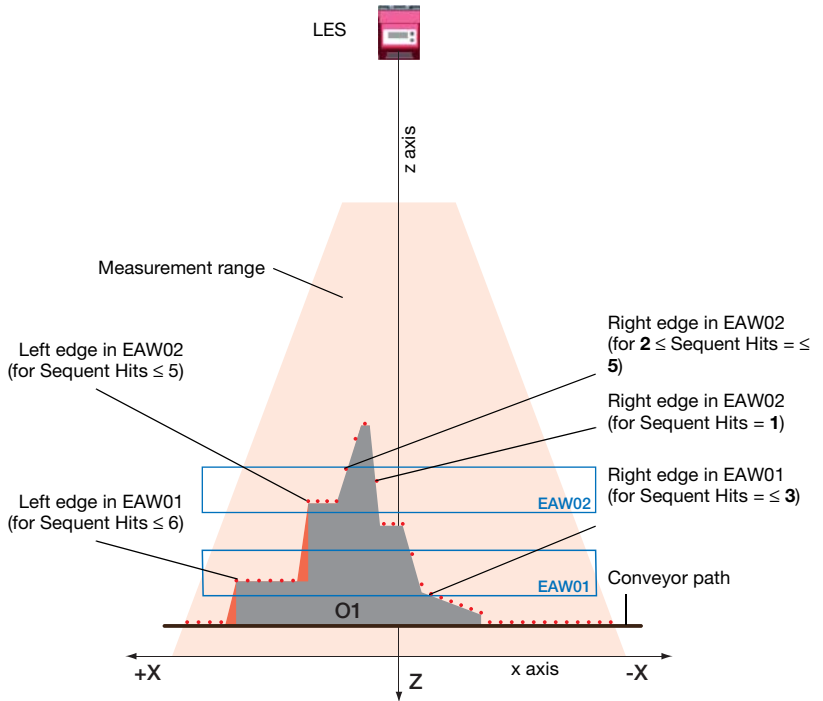

Figure 4.7: Meaning of Sequent Hits for edge detection
*If there are not enough successive measurement points on the edges of an EAW, the found edge positions are shifted away from the edges of the EAW (see Figure 4.7, different right edge position with different parameters for Sequent Hits).*